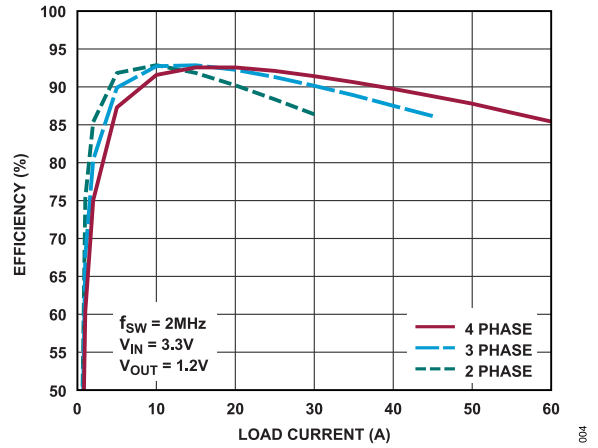

Figure 4. Efficiency vs. Load Current
Figure 4 shows the efficiency of the circuit with a 3.3 V input for all three build options.
17. Measure the I\_STEP voltage to observe the current,  $V_{I\_STEP}/10$  m $\Omega$ . Adjust the amplitude of the pulse to provide the desired transient. Adjust the rising and falling edge of the pulse to provide the desired ramp rate. Figure 4 shows a load step from 10 A to 20 A in 1  $\mu$ s. Refer to the following equations: